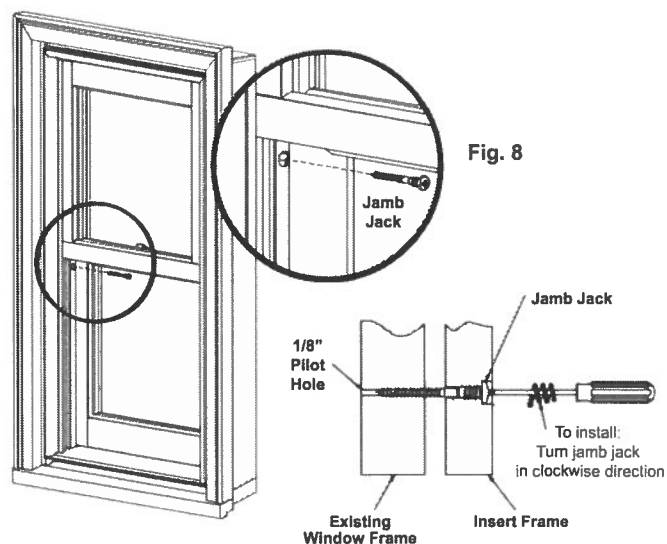

Fig. 8
8. On the exterior, below the top check rail, is a predrilled hole in the jambliner for each jamb jack. Using this hole as a guide, drill a 1/8" pilot hole into the existing window frame. Insert jamb jacks into each hole using an S3 square bit driver and drive until the jamb jack bottoms out. See Figure 8.